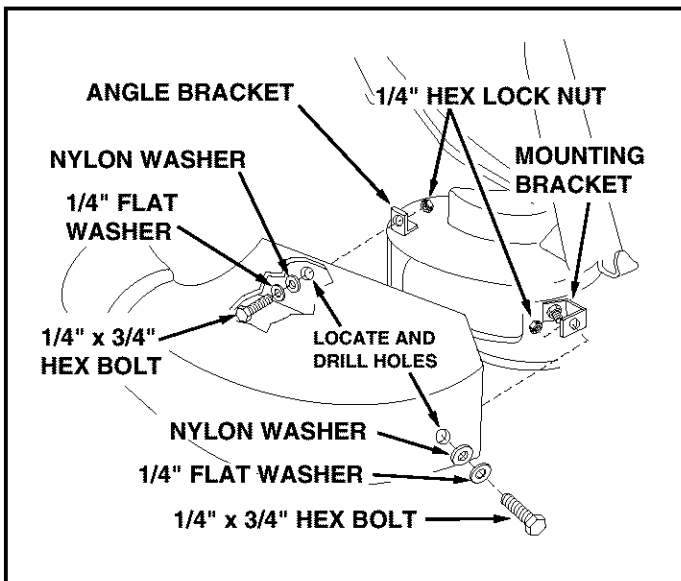

FIGURE 28
- Drill two 5/16" diameter holes in the deck adapter that will align with the holes in the angle bracket and the mounting bracket. Assemble the deck adapter to both brackets using two 1/4" x 3/4" hex bolts, 1/4" flat washers, nylon washers and 1/4" hex lock nuts. See figure 28.